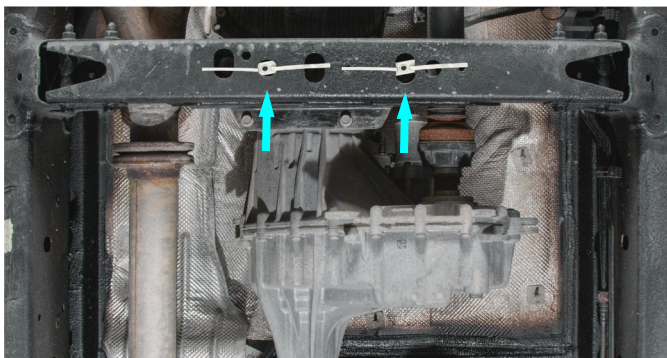

Fig. 3
3. Install insert nuts M10 (item A) as shown in fig.3.